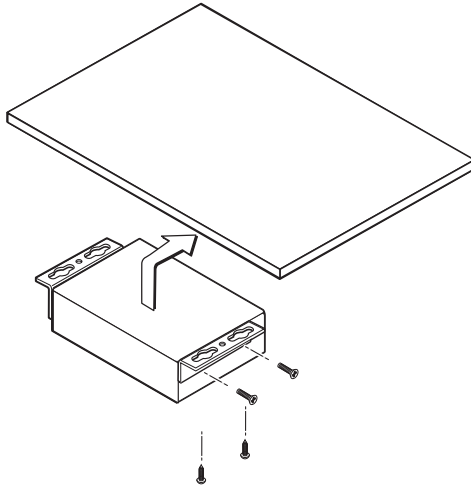

Figure 2-3 — Under-desk mounting brackets
1. Attach the under-desk mounting brackets (MBU 125, part #70-077-01) to the VSW 2VGA A with the four provided machine screws, as shown in figure 2-3.